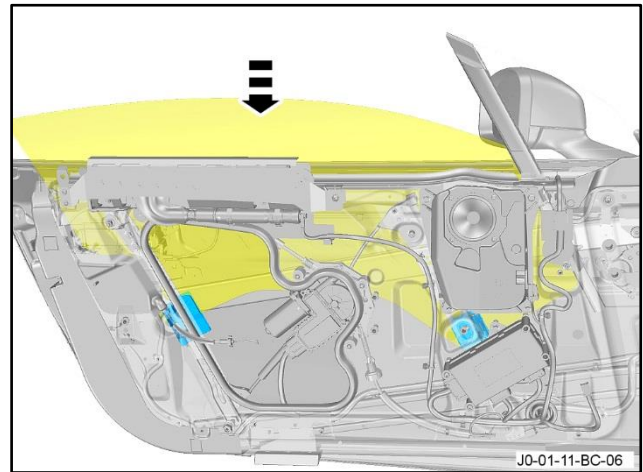

Figure 33
18. Carefully put the door glass into the door (refer to Figure 33).